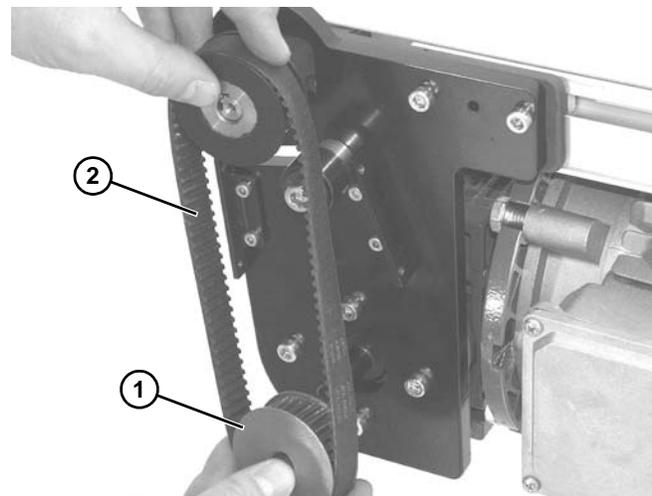

Figure 27
If drive pulley (**Figure 27, item 1**) is replaced, wrap timing belt around drive pulley and complete step 3.
3. Loosen drive pulley (**Figure 27, item 1**) set screws. Remove drive pulley and timing belt (**Figure 27, item 2**).
*Drive pulley (**Figure 27, item 1**) is removed. Wrap timing belt around drive pulley and complete step 9.*